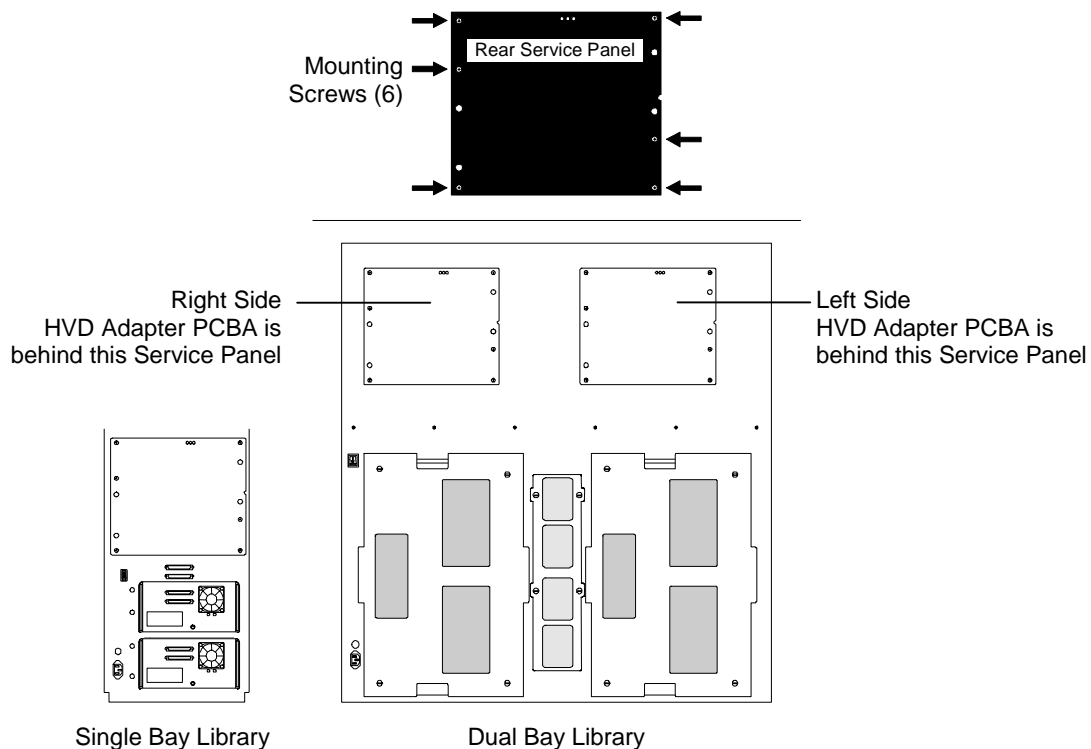

Figure 7-76 Rear View of Service Panels
2. Use a number 2 Phillips screwdriver to remove all six Rear Service Panel mounting screws (Figure 7-76), then remove the panel.
4. Place the Rear Service Panel onto the TLS, then use a number 2 Phillips screwdriver to reinstall all six Rear Service Panel mounting screws (Figure 7-76).